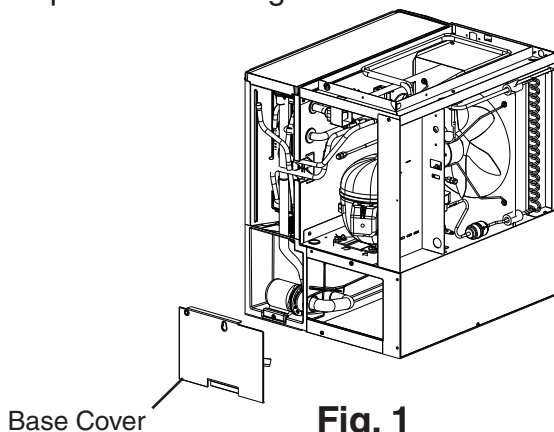

Fig. 1
- 1) Remove the front panel. Move the control switch to the "OFF" position, then remove right side panel, and base cover. See Fig. 1.